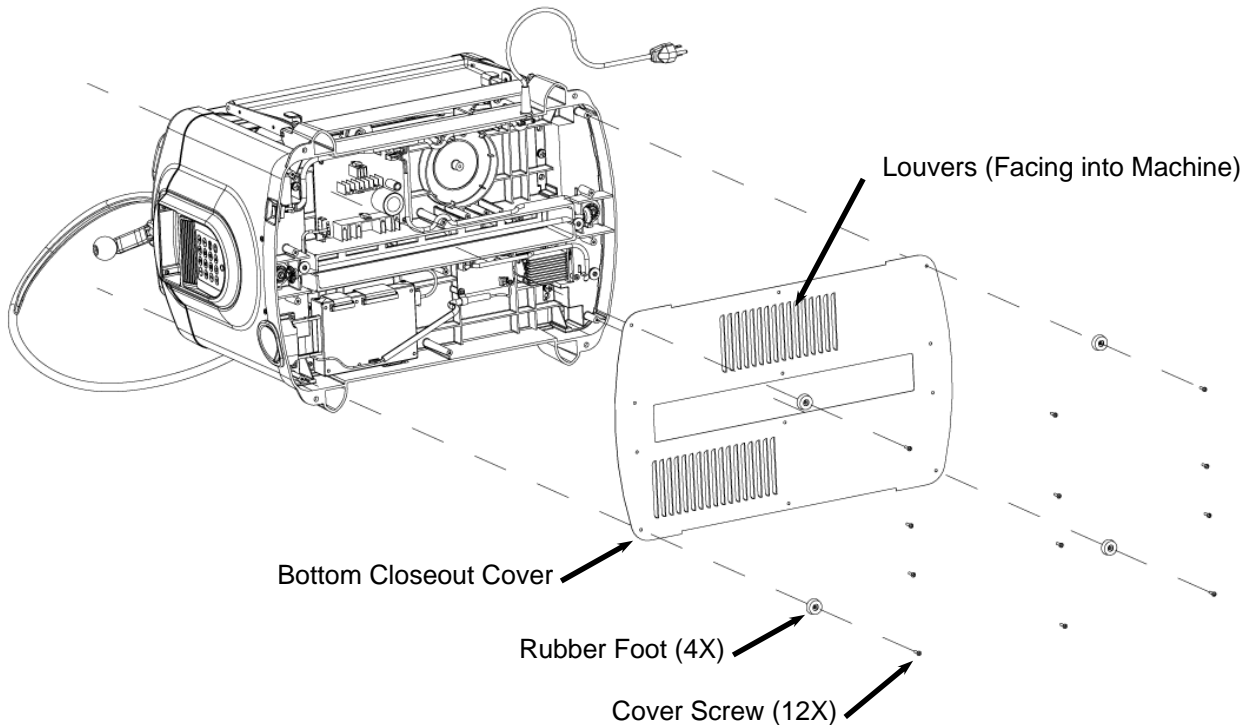

FIGURE 2: REMOVAL OF THE BOTTOM COVER
3. **Replace the bottom cover.** Replace the metal cover with the louvers pointing into the machine (see Figure 2). Insert and tighten the 12 screws. The four rubber feet are placed at the corners of the machine.